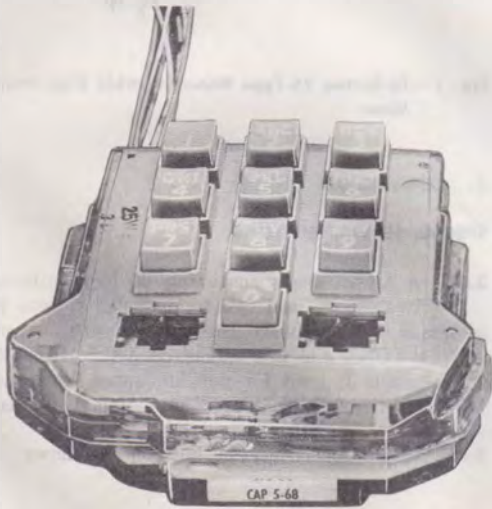

Fig. 3—10-Button 25-Type Convertible Dial with Dust Cover, Front View
2.01 The 25-type TOUCH-TONE® dial is a transistorized multifrequency dialing device equipped with pushbuttons having numbers or numbers and letters. Earlier versions of this dial have 10 buttons only (Fig. 1 and 2). Currently manufactured dials are convertible to 12-button operation by the addition of two snap-in special service buttons (Fig. 3 and 4).